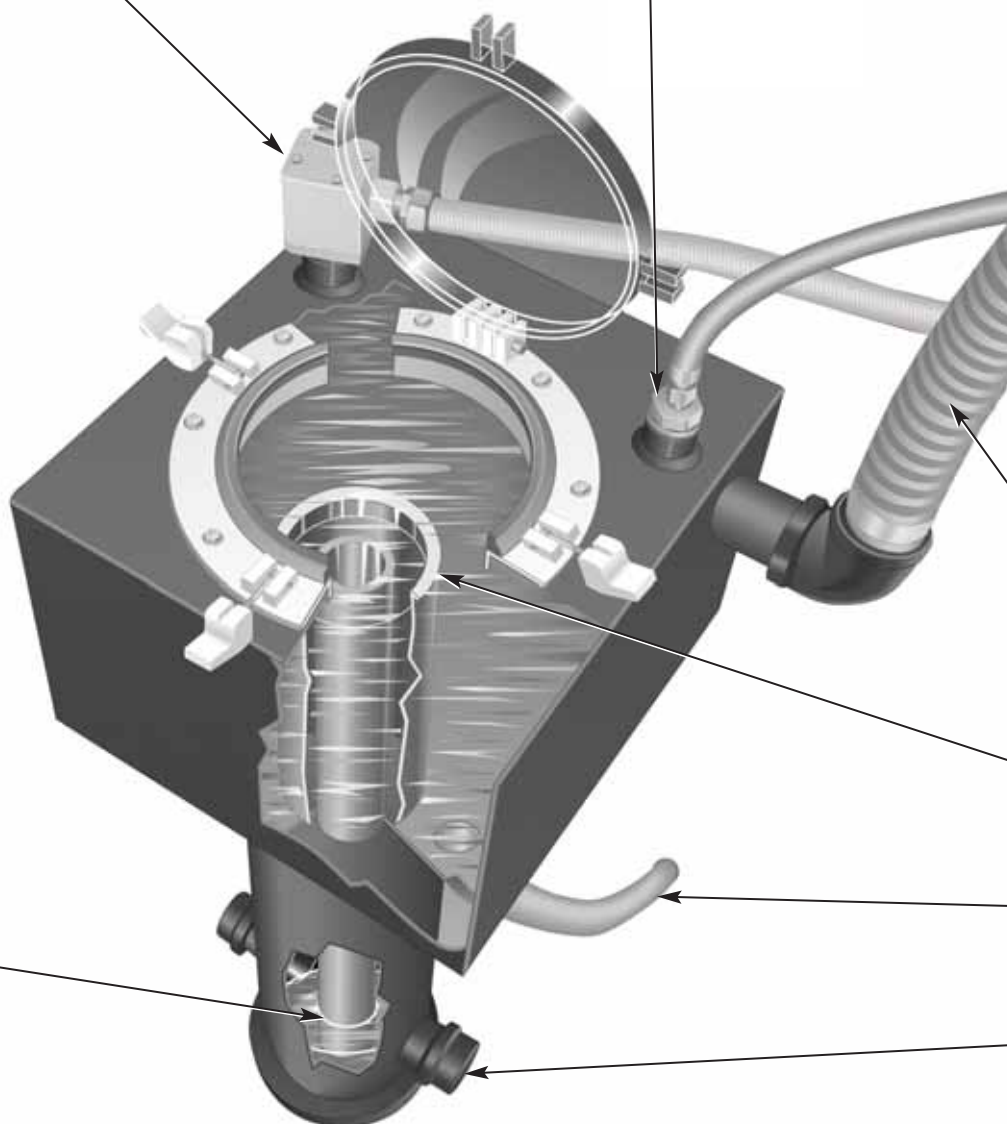

Figure 7. Cutaway view of standard Water Level Control Box Model "SV".
- b. Pour one gallon of water down control box drain pipe to make an air seal at the bottom of the pipe (Figure 7).
- a. Observe water in control box frequently. Be certain that water level is at the running level weir (Figure 7). Observe frequently through portlight in control top box. **DO NOT** open portlight when unit is running because air leakage will alter water level.